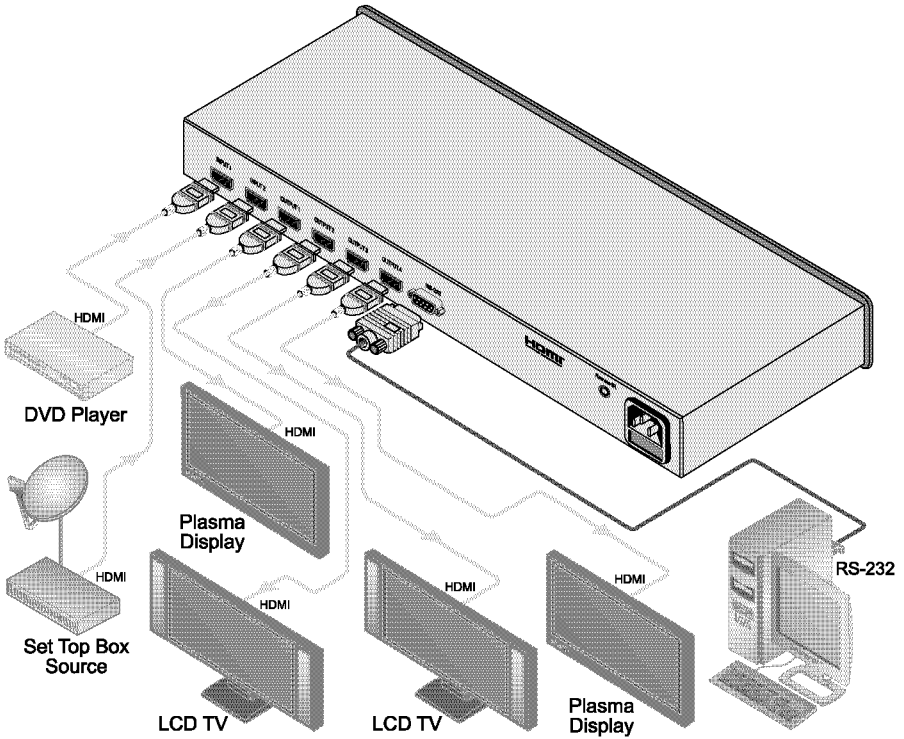

Figure 2: Connecting a VM-24H 2 Input 1:4 HDMI Distributor
To connect the **VM-24H**, as illustrated in the example in Figure 2, do the following¹:
4. Connect the power cord to the mains electricity (not shown in Figure 2).
4 Only connections from the first two acceptors and the last two acceptors are shown in Figure 2